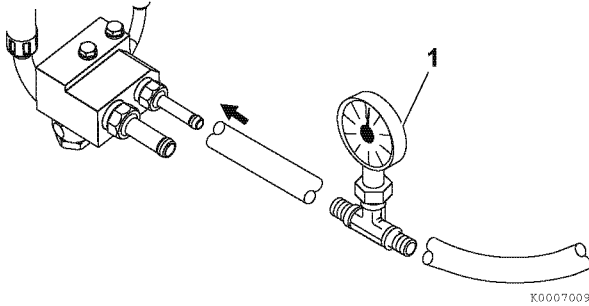

Figure 6-7
- Measure vacuum/restriction before the electric pump. Connect a suitable fuel vacuum gauge assembly (1, **Figure 6-7**) inline between the fuel tank and fuel feed pump, to measure vacuum. This value should not exceed 1000 mmAq (40 in.Aq). If it exceeds the specification, correct restriction from the fuel tank to the engine.